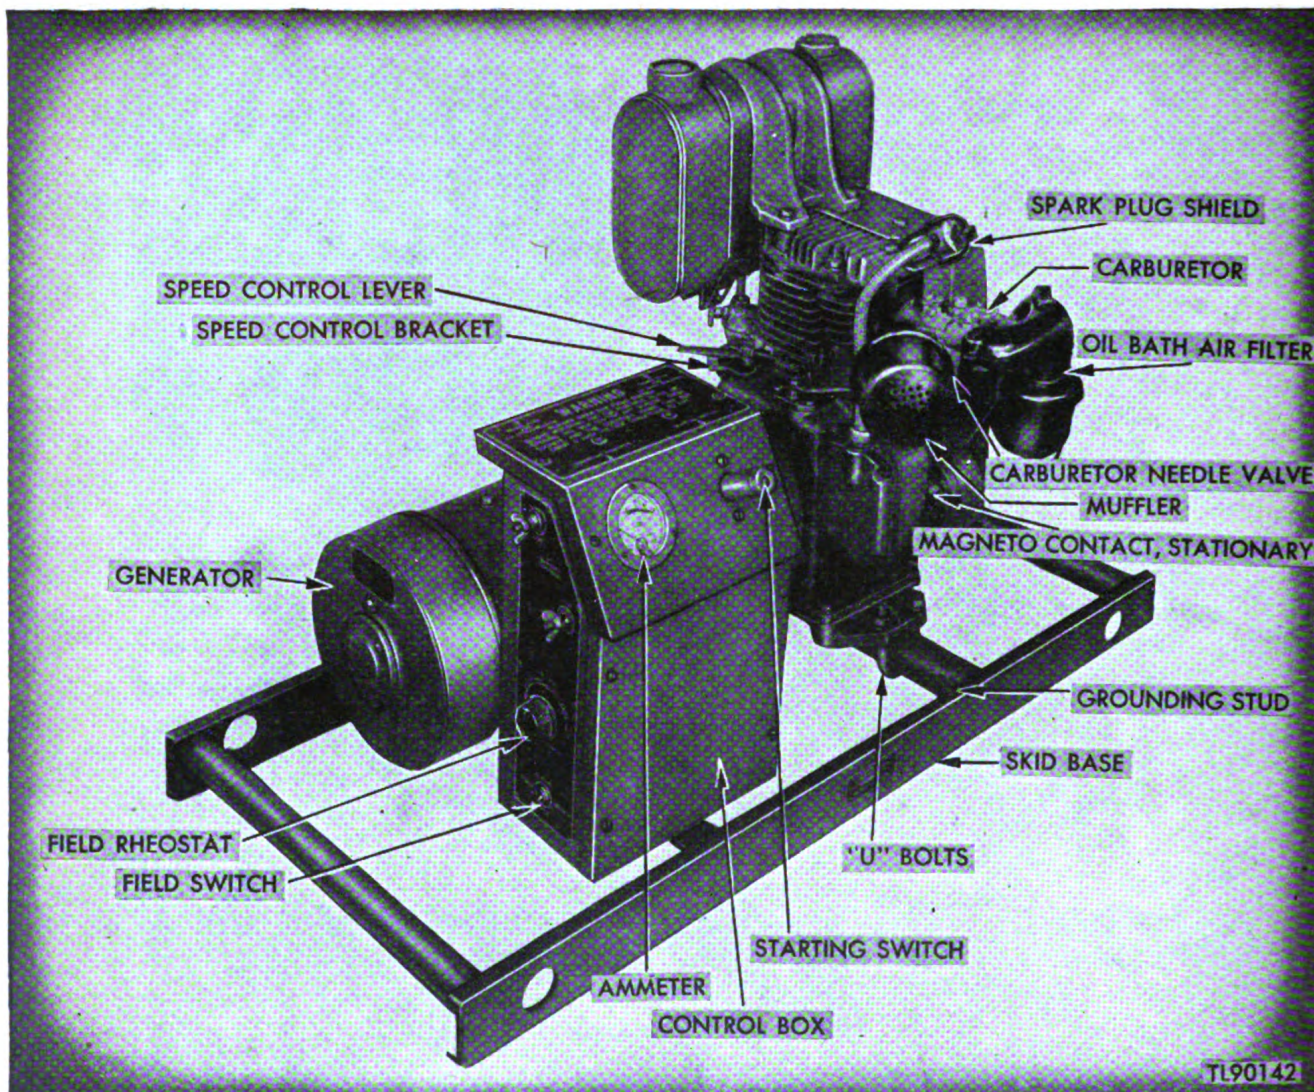

Figure 11. Power Unit PE-49-F from control box side.
d. CONTROL BOX ON POWER UNIT PE-49-F (fig. 11). The starting switch and ammeter are located at the top of the box. The field switch, two battery-charging binding posts, and a field rheostat are mounted on the outside at one end. A complete circuit label is mounted on the inside of the front cover. The control box includes the filter unit, a reverse-current battery